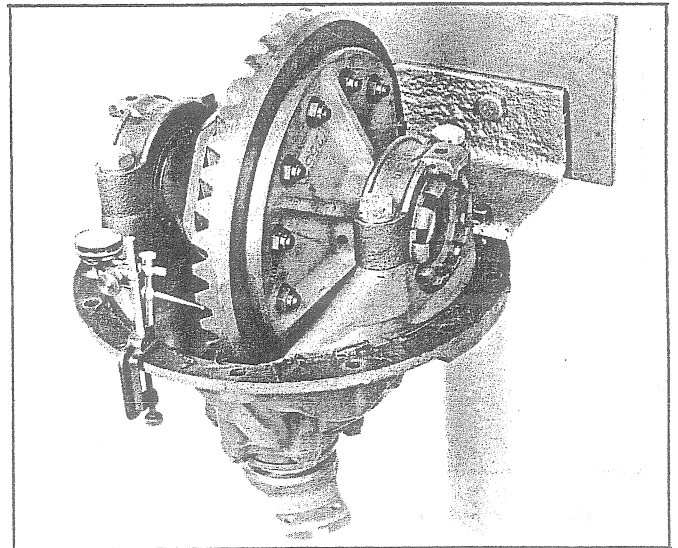

Fig. 105 - Checking Ring Gear and Pinion Backlash
1. If the same gears are to be reinstalled in the differential assembly, check and record ring gear backlash, using a dial indicator. See Fig. 105.